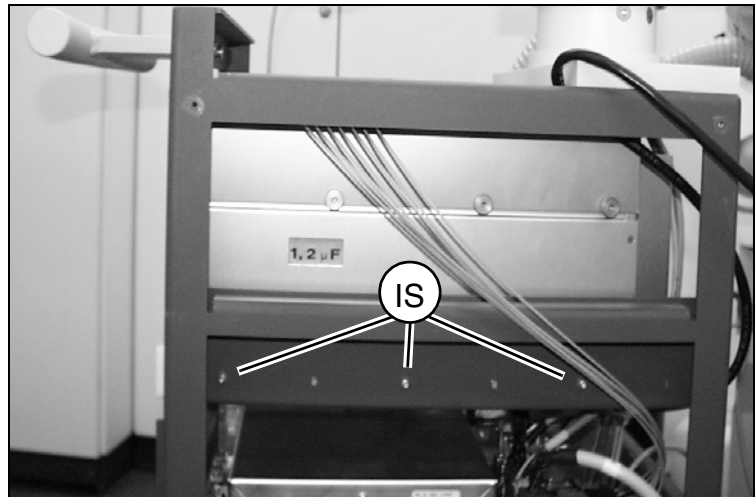

Fig. 14
- Remove the six Allen screws (IS/Fig. 14) (three on each side, right and left).
- Reattach the six Allen screws (IS/Fig. 14) and tighten them (three on each side, right and left).